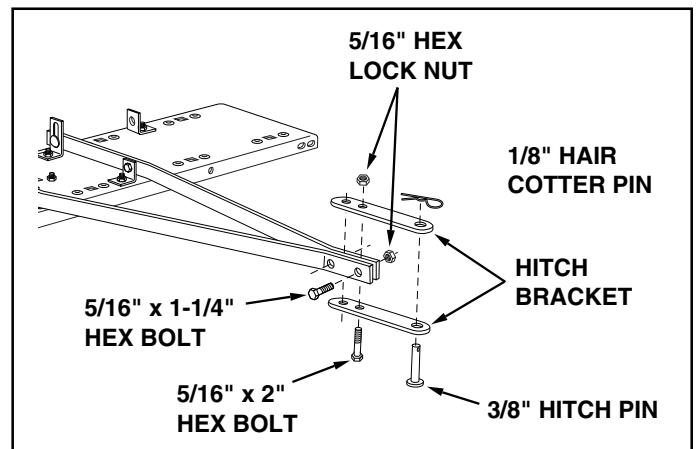

FIGURE 4
7. Assemble the front ends of the hitch mount arms together using two 5/16" x 1-1/4" hex bolts and 5/16" hex lock nuts. **Do not tighten yet.** See figure 4.
8. Assemble the hitch brackets to the top and bottom of the hitch mount arms using two 5/16" x 2" hex bolts and 5/16" hex lock nuts. **Do not tighten yet.** See figure 4.
9. Assemble the 3/8" hitch pin through the hitch brackets and secure it with a 1/8" hair cotter pin. See figure 4.